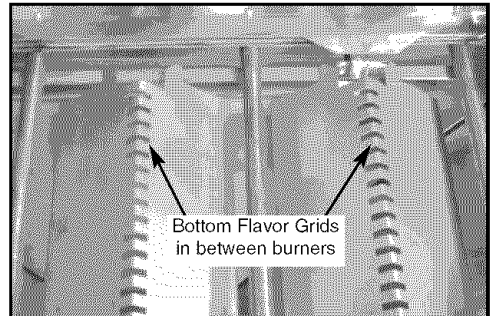

Fig. 3
1. Install the bottom Flavor Grids in the lower cutouts and around the igniters. (See Fig. 3)